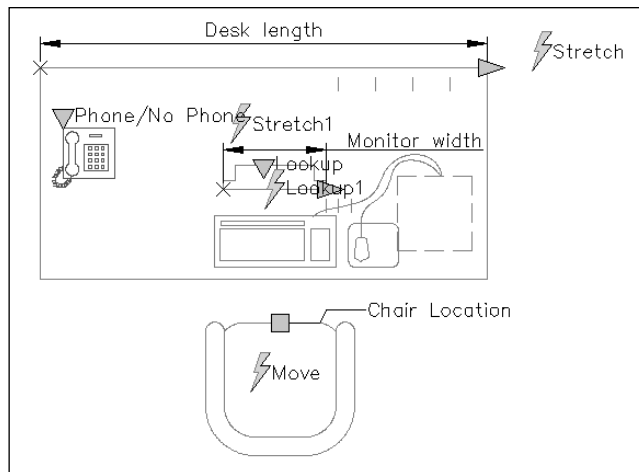

Figure 18-26: The completed dynamic block in the Block Editor.
23.  Your block should look like Figure 18-26. Click Save Block Definition on the Block Editor toolbar. At the message asking whether you want to update the block reference in the drawing, click Yes. Then click Close Block Editor. Save your drawing.